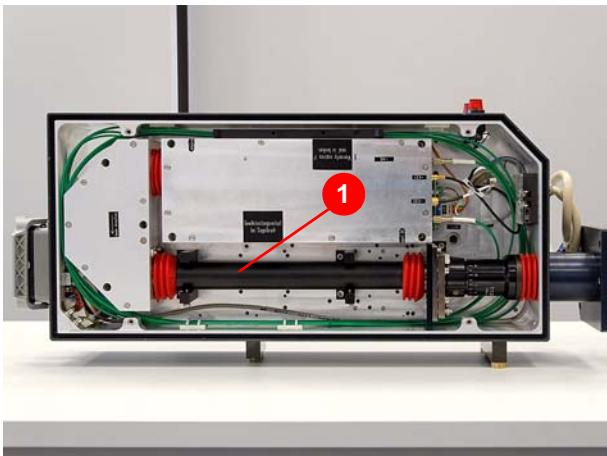

Figure 7.43 Dismantling the beam guide
3. Remove the beam guide (1) (Figure 7.43) on the resonator side of the laser head.